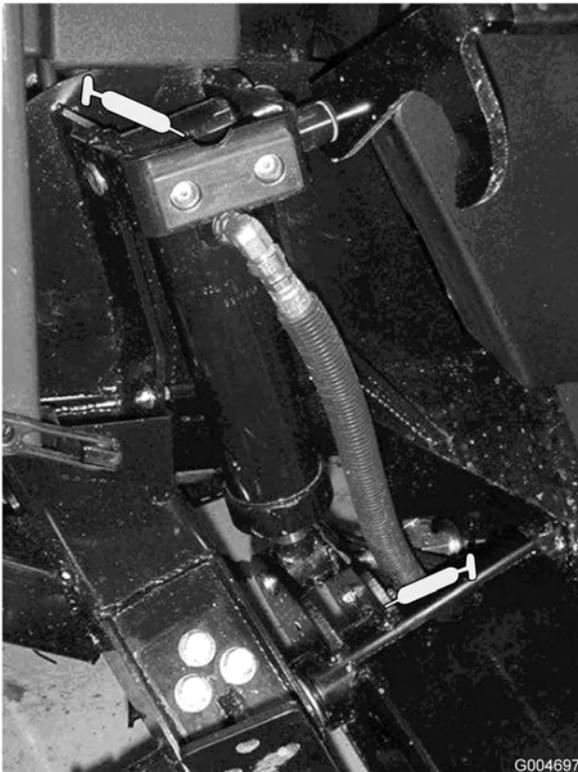

Figure 45
- Lift cylinder bushings (4) (Figure 45)